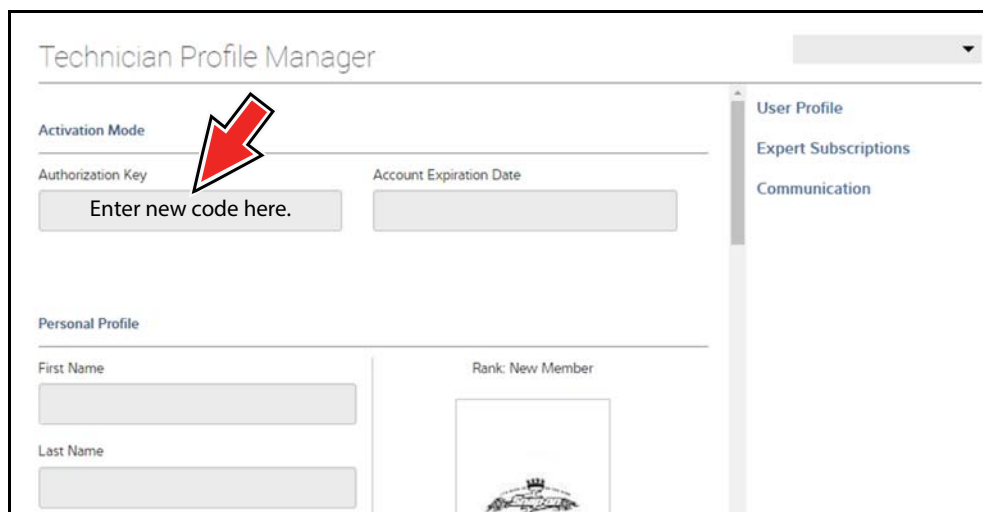

Figure 5-19
3. Log in to the Profile Manger (Figure 5-19) using your current username and password.
4. Enter your new **Authorization code** (Figure 5-19).